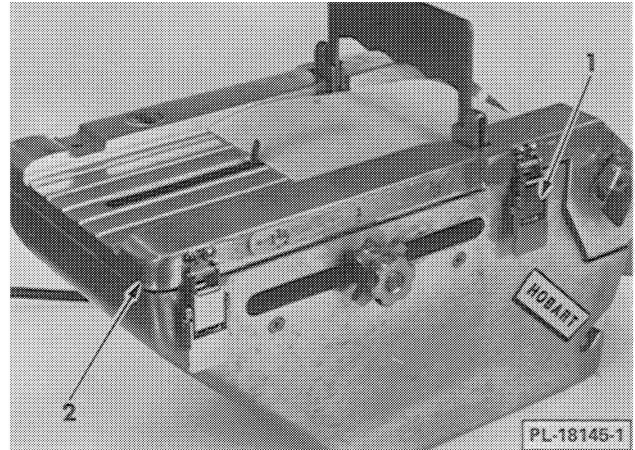

Fig. 10
7. Lift machine clear of adapter. Place machine flat on table (chute parallel with table (Fig. 10)).
8. Release the three chute clamps (1, Fig. 10) and remove chute (2, Fig. 10) from machine.